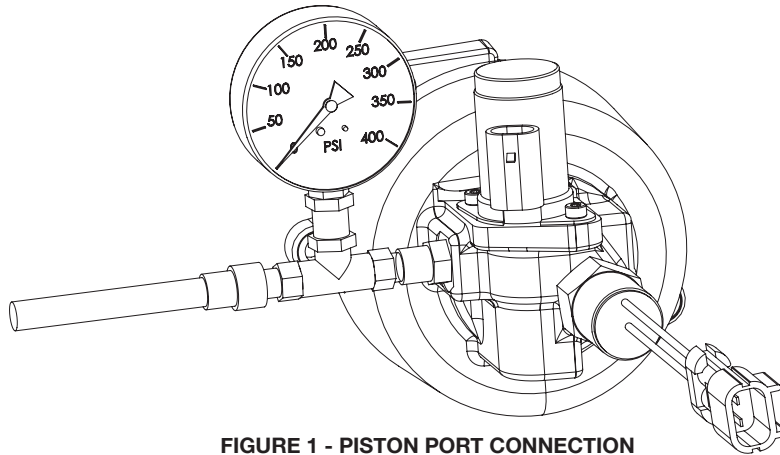

FIGURE 1 - PISTON PORT CONNECTION
3. Install a 400 PSI pressure gauge at the piston port of the FR6Q PTO as shown in figure 1 below.